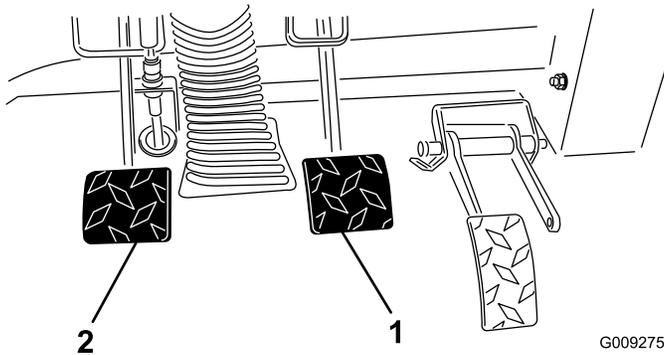

Figure 52
2. Lift up on the brake pedal (Figure 52) until it contacts the frame.